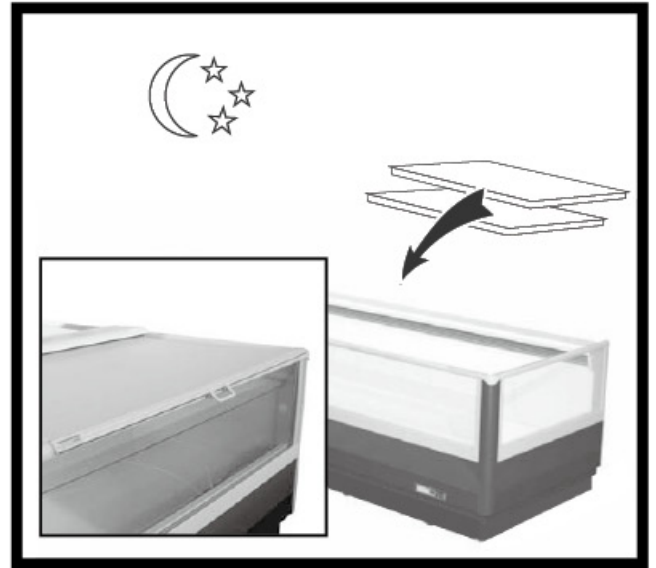

fig. 14
- using night covers or night curtains, if any are installed, during closing hours (fig. 14): this avoids unnecessary energy consumption and helps better product preservation;